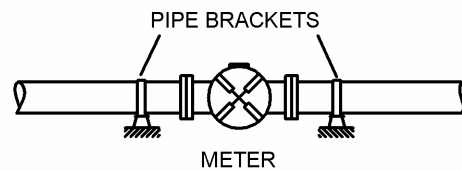

Figure 4 Supporting the flow meter
1. Install suitable pipe brackets at each side of flow meter (Figure 4).